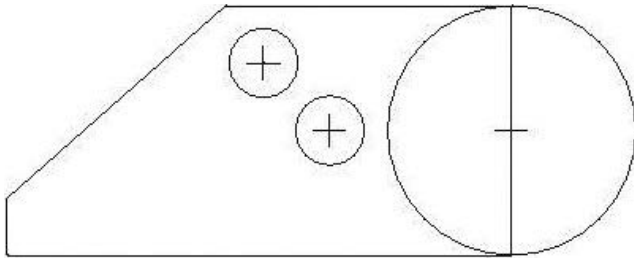

Figure 3-20 Delete Lines and Add Circles
Step 6: Use  to draw a circle on the right end as shown in Figure 3-20. Also, draw two circles in the interior of the figure. Draw the first circle at the same horizontal position as the big circle, then draw a second circle the same size as the previous circle centered up and to the left of it as shown. Press MMB to terminate this command.